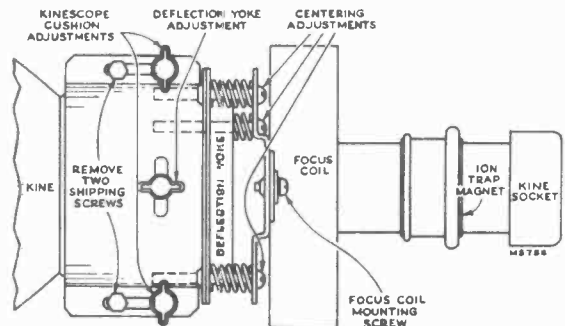

Figure 3—Yoke and Focus Coil Adjustments
**CENTERING ADJUSTMENTS.**—Centering is obtained by adjustment of the centering controls and by mechanically orienting the focus coil with three adjustment screws shown in Figure 3. The focus coil should be concentric around the neck of the kinescope to prevent curvature of the raster.
**FOCUS COIL ADJUSTMENTS.**—If, after making the centering adjustments in the above paragraph, a corner of the picture is shadowed, it will be necessary to loosen the focus coil mounting screws (shown in Figure 3) and change the position of the coil to eliminate the shadow. Re-center the picture by adjustment of the electrical centering controls and the focus coil centering adjustments.